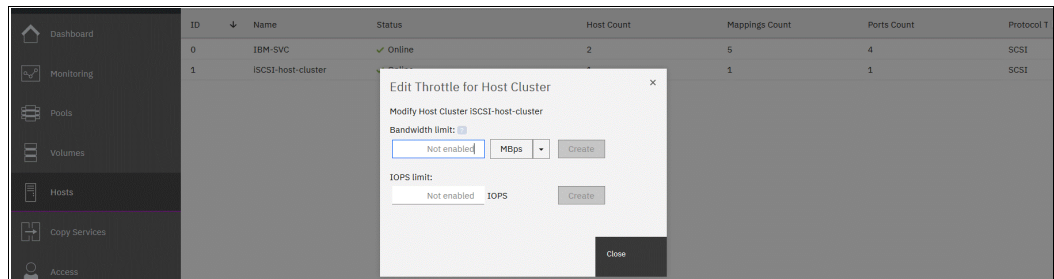

Figure 7-68 Creating a host cluster throttle
3. If no individual throttles exist, set or edit I/O or data rate limits in the pop-up window (see Figure 7-68). Click **Create** to create a throttle, or click **IOPS limit** and click **Save** to change the throttle.